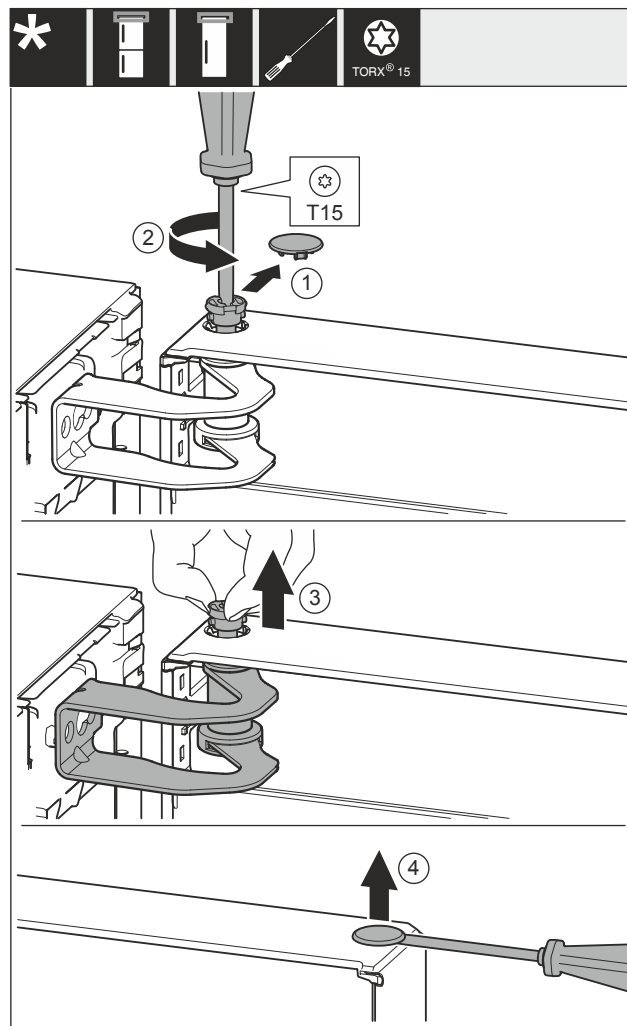

Fig. 17
- Carefully remove the cover Fig. 17 (1).
- Use screwdriver to loosen the bolts Fig. 17 (2) a little.
- Pull out the bolt Fig. 17 (3) with your fingers.
- Carefully lift and remove the cover Fig. 17 (4) with a screwdriver.